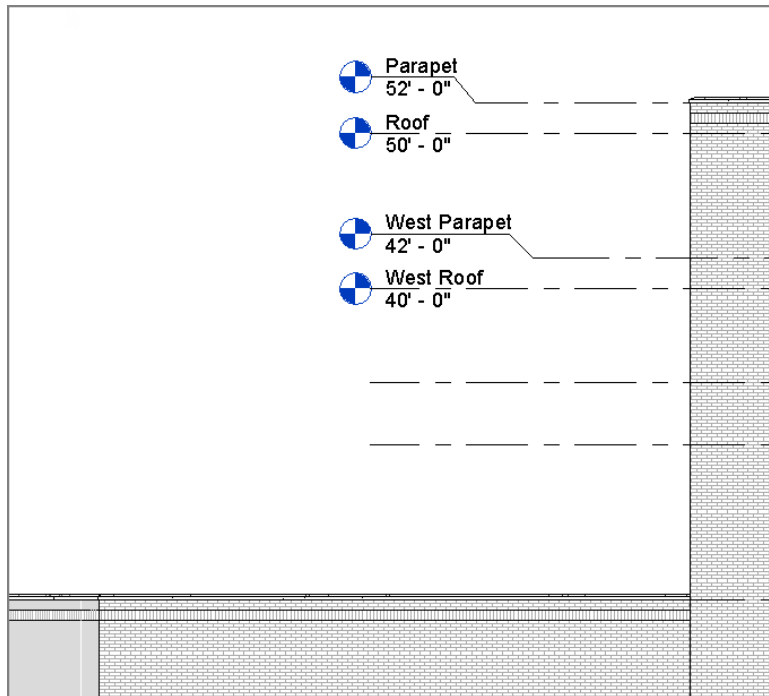

FIGURE 3.24: Using the display bubble toggles to switch the display to the appropriate side of the building
2. Display the bubbles to the *left* side of the level line by selecting the Show Bubble check box. The level should now look like Figure 3.24 (you have to add those elbows again).